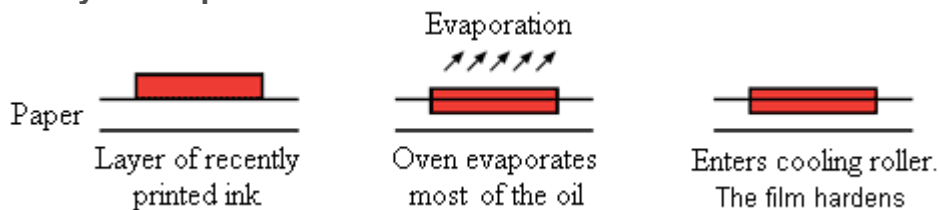

Fig. 15: Process of drying inks by evaporation.
- **Evaporation.** There is slight absorption by the paper, although this is very low as the paper is quickly placed in the drying oven, causing evaporation. The paper then passes through coolers that set the ink (fig. 15). This is normally used in **rotary offset presses**.